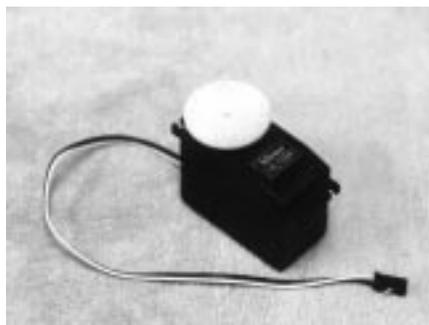

Figure 1. The Hitec RCD 715 BB.
1. Buy a Hitec HS-715BB servo (Figure 1).